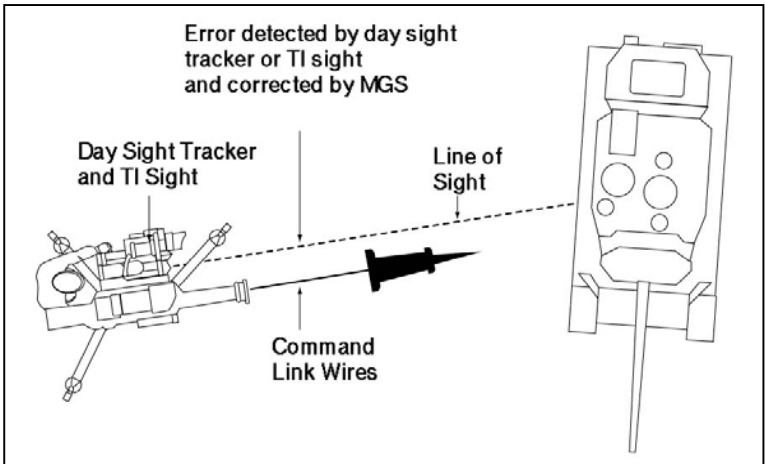

Figure 5-1-7: Guiding Missile to Target
- c. **Step 3—Acquiring and Tracking the Target.** The gunner looks through the thermal imagery (TI) sight and aligns the cross-hairs on the target by applying lateral force to the control knobs to position the cross-hairs in azimuth. Then the gunner rotates the control knobs to align the cross-hairs in elevation (see Figure 5-1-7).